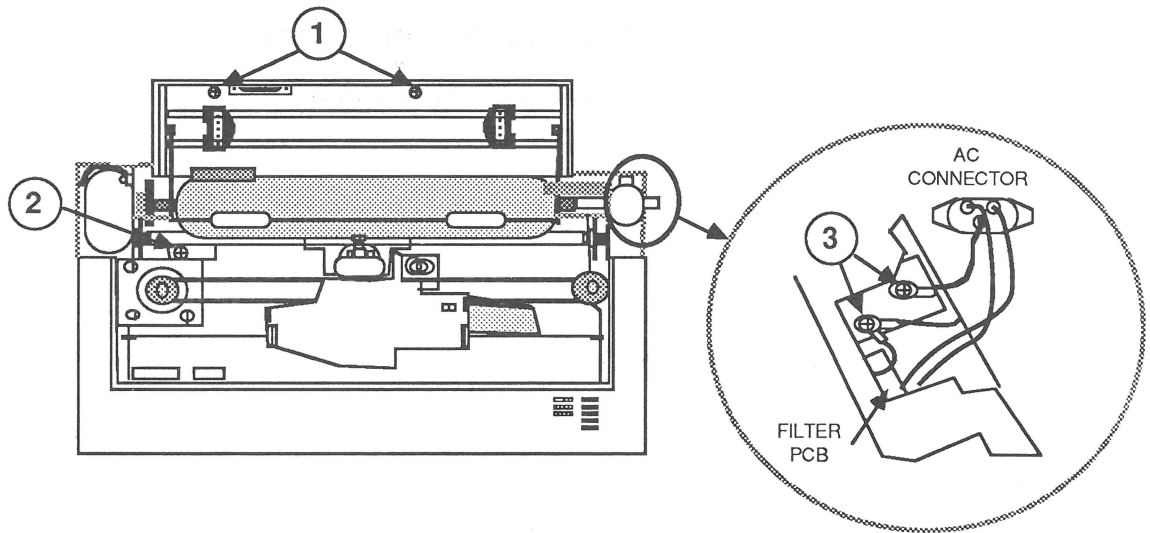

FIGURE 16
4. Remove the two screws located under the tractor cover (Figure 16, #1).
5. Remove the grounding connector from the spade on the drive PCB (Figure 16, #2).
6. Remove the two grounding screws, which hold three grounding wires, located in the right support leg (Figure 16, #3).